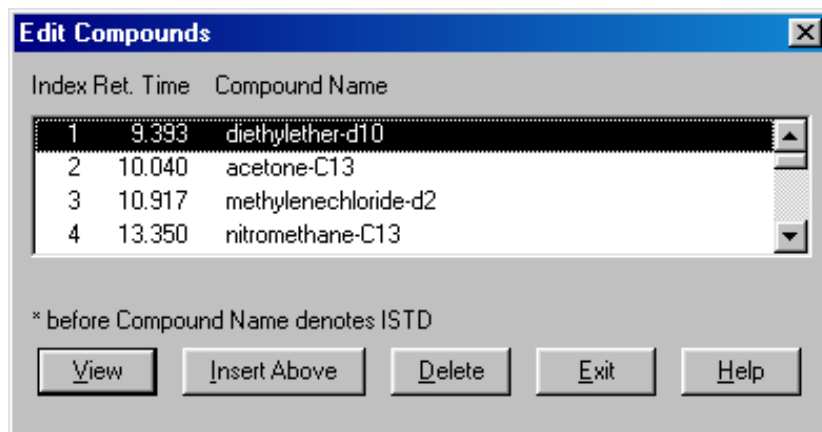

Figure 4 - ChemStation Edit Compounds Dialog
- Following the input dialog, the 'Edit Compounds' dialog will be displayed (Figure 4). This is the same ChemStation dialog used in the Calibrate | Edit Compounds menu option. It is assumed that ChemStation users are familiar with ChemStation functions, so editing the quantitation library in ChemStation will not be explained here.